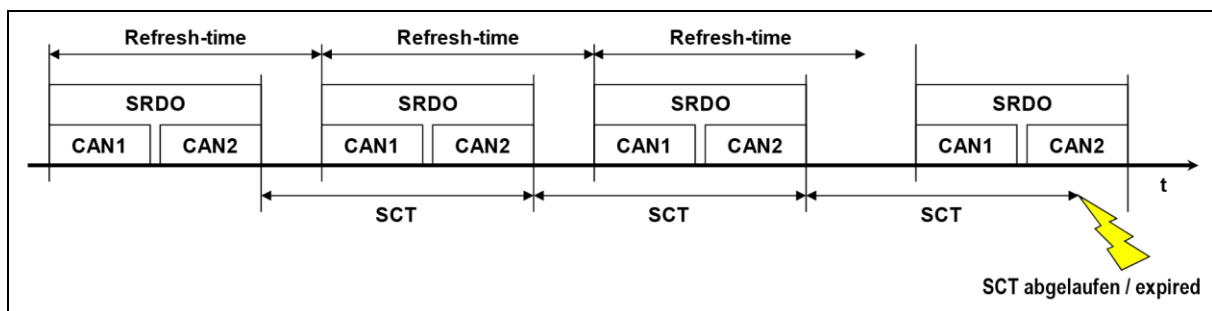

Figure 7: Refresh time / SCT
- SRDOs are sent cyclically. The time between two SRDOs is determined by the Refresh time/Safeguard Cycle Time (SCT) parameter in the communication objects 1301h-1303h subindex 2, also see following Figure 7.